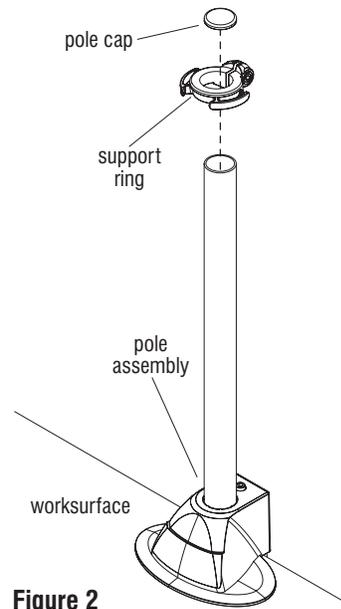

Figure 2
4. Slide the support ring down the pole to the desired height of the monitor screen. Twist the knob on the support ring to secure in place, then re-insert the pole cap on top of the pole assembly (Figure 2).